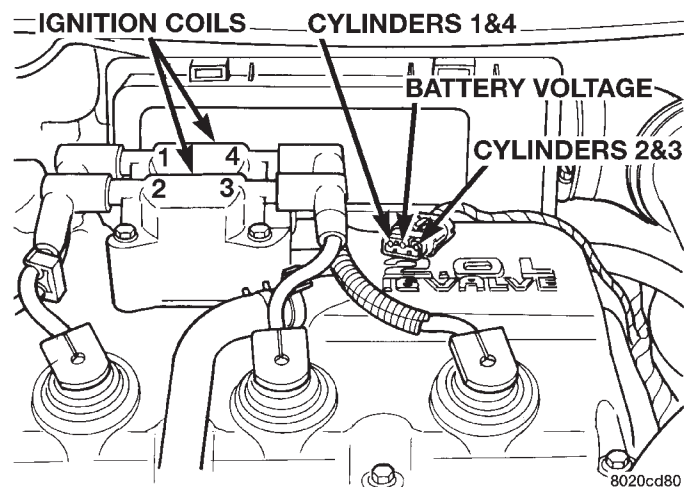

Fig. 17 Ignition Coil Engine Harness Connector
(1) Check battery voltage. Voltage should approximately 12.66 volts or higher to perform failure to start test.
(2) Disconnect the harness connector from the coil pack (Fig. 17).
(3) Connect a test light to the B+ (battery voltage) terminal of the coil electrical connector and ground. The B+ wire for the DIS coil is the center terminal. **Do not spread the terminal with the test light probe.**